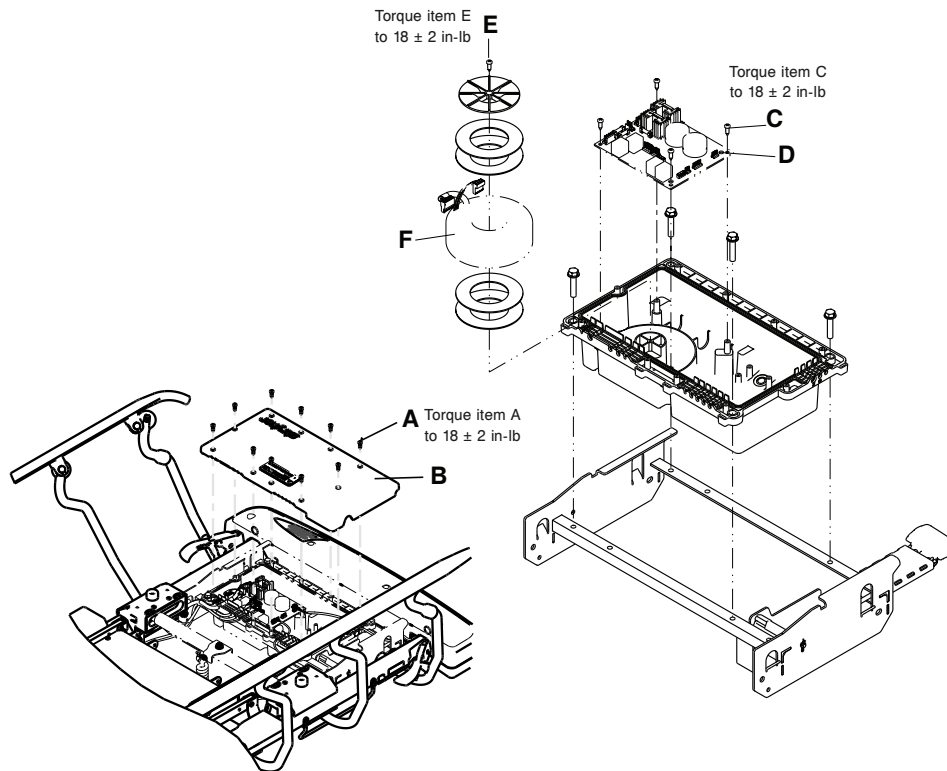

Figure 31 – Transformer replacement
5. Using a #2 Phillips screwdriver, remove the 10 pan head tapping screws (A) that secure the control board cover (B) to the control box bottom (Figure 31). Remove and save the control board cover.